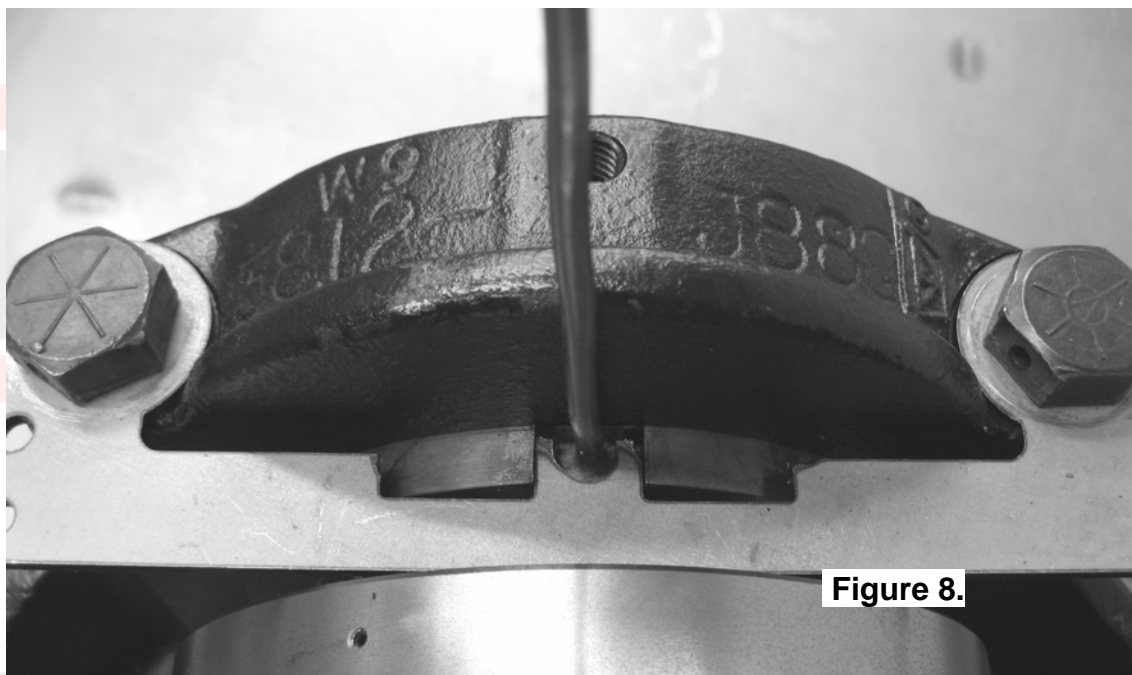

Figure 8.
- Rotate the seal housing so the slot and the tube are pointing straight out of the axle opening. Then install the seal housing bracket with the tab locating in the slot as shown in Figure 8.